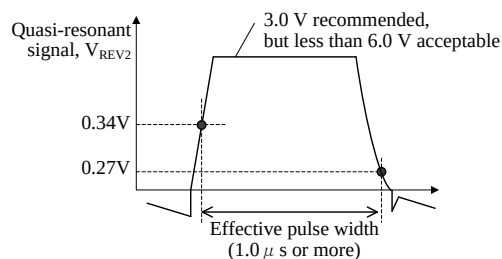

Figure 9-12 The effective pulse width of quasi-resonant signal
- The effective pulse width of quasi-resonant signal is 1.0 μ s or more (refer to Figure 9-12)
power supply specification, $V_{REV2} < 6.0\text{ V}$ (Absolute maximum rating of the BD pin) and the effective pulse width of quasi-resonant signal is $1.0\text{ }\mu\text{s}$ or more (refer to Figure 9-12).